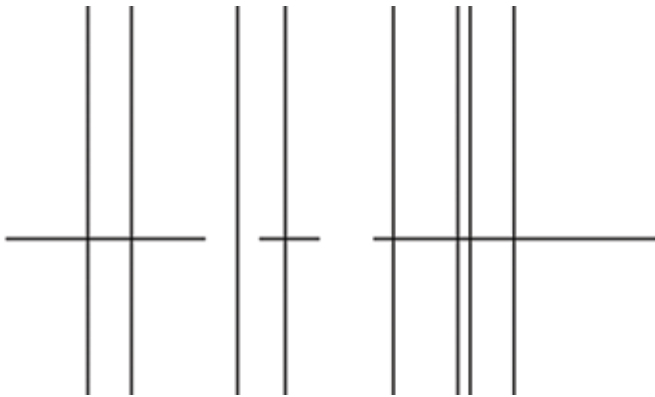

Figure 9.6
12. **Continue to offset** the original construction line until a vertical boundary for each circle and the right side of the drawing is placed on the screen. See Figure 9.6.